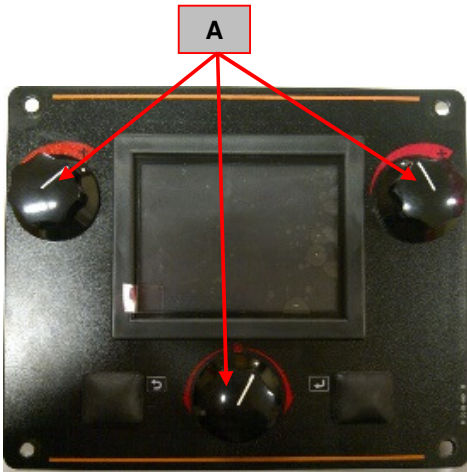

Figure 14
6. Using the 2mm allen wrench remove the three knobs (A). See **Figure 14**.